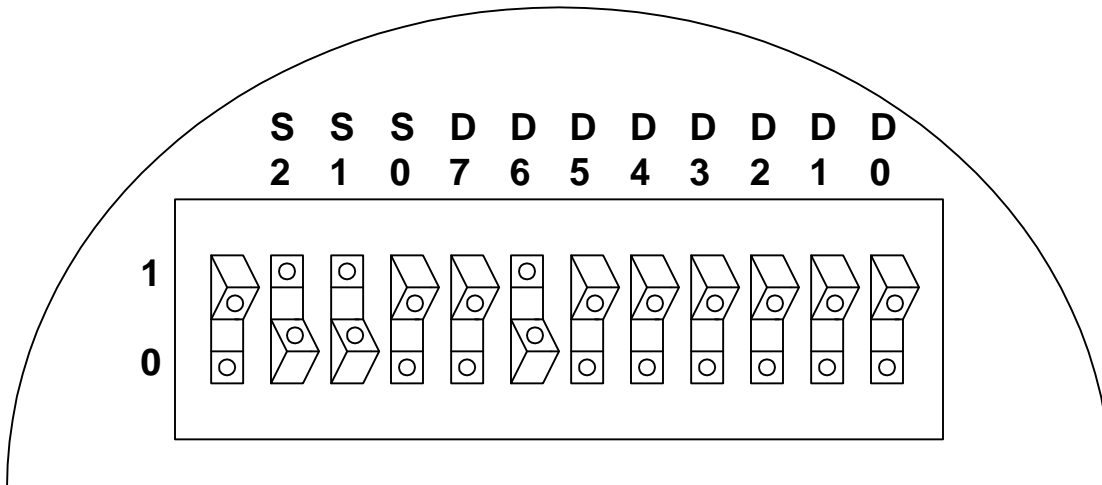

Figure 3. Dip Switches Set to Value [110 01000000] to Reset XRD9827
11. Set the dip switches located on the side panel of the scanner to [110 01000000] as shown in Figure 3 and push the Serial Port button which is located on the front panel of the demo system. This will reset the XRD9827.